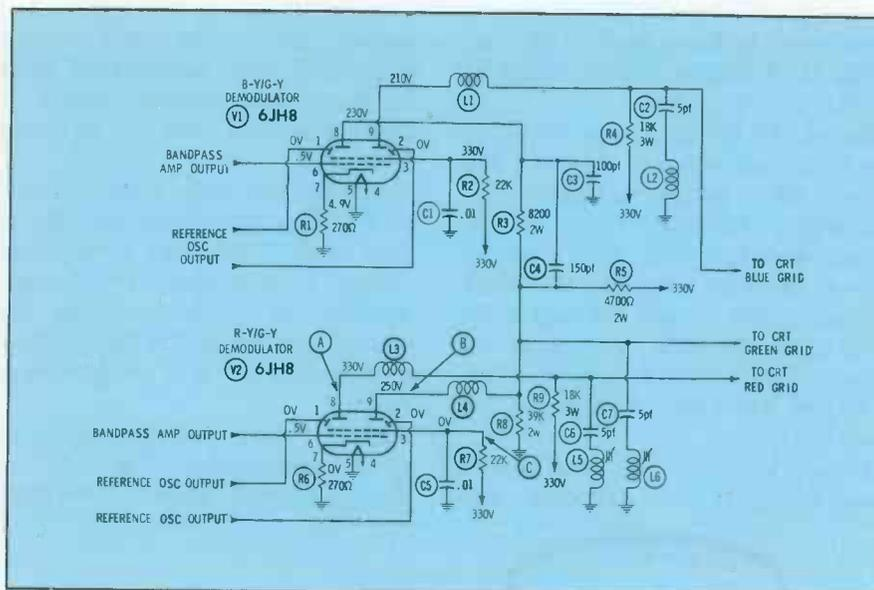

Fig. 4. Shorted C5 removes screen-grid voltage, tube and conduction ceases.
Step 5: Make voltage checks at R-Y demodulator (Fig. 4).